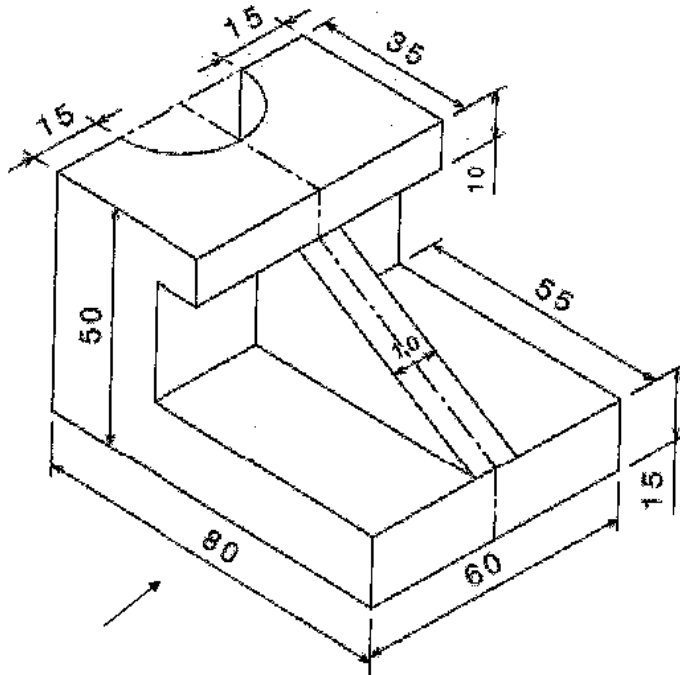

Figure 1
5. Figure 1 shows a pictorial view of an object. By using first angle method of projections, draw; (13)